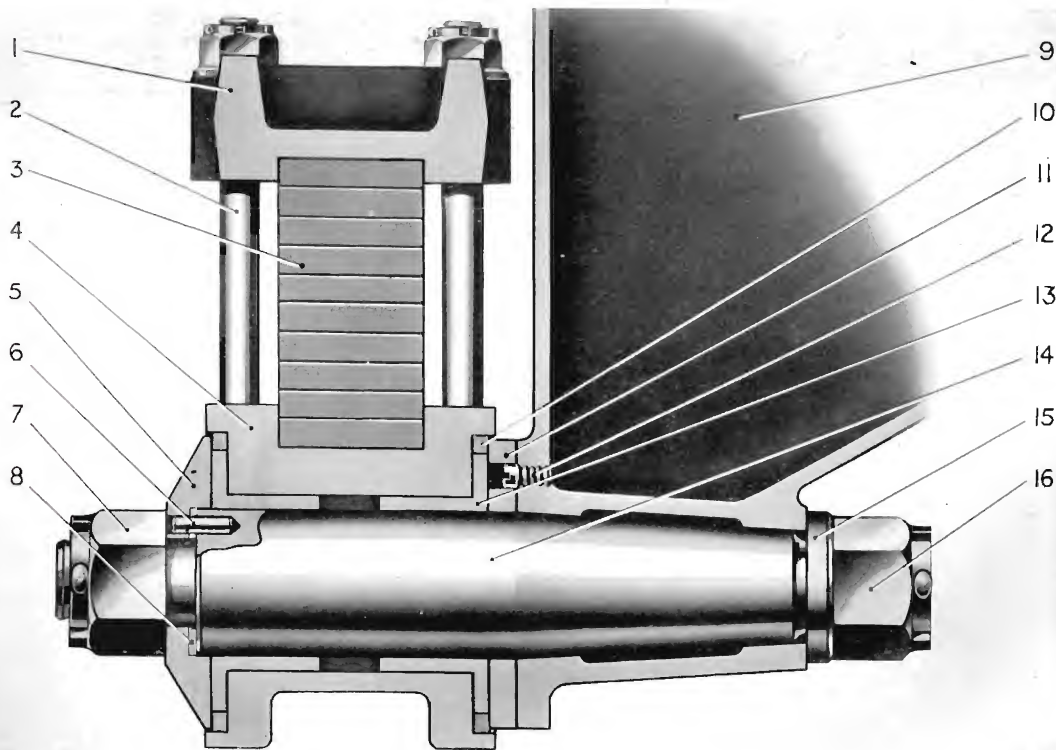

Fig. 2.
The rear springs on six-wheelers are supported on pivot pins (14), Fig. 2, taper fitted in triangular brackets secured to the frame side members and strengthened by a cross tube. The springs are secured to the spring-seat brackets (4) by alloy steel bolts. The spring-seat brackets have flanged bushes (13) pressed in from each end and are located on the pivot pin between two thrust washers (5) and (11), one dowelled to the triangular bracket, the other to the pivot pin. The assembly is secured by a large nut (7) which is split pinned, shims (8) being fitted so that the nut can be pulled dead tight without nipping the spring-seat bracket. Dirt and water are excluded by two felt washers (10). Lubrication is effected through nipples in the lubrication batteries.
To replace a broken spring, pack up under the frame high enough to take all weight off the spring; jack up under the axles and remove the wheels. Remove the bolts securing the spring to the spring-seat bracket (4), Fig. 2, take out the clamp bolts and withdraw the shackle pins. The shackle pins have $\frac{3}{8}$ in. B.S.F. tapped holes, so that bolts can be screwed in to facilitate their withdrawal. Jack up the axles high enough to allow the spring to clear the axle brackets and the spring can be removed.
The spring-seat bracket bushes should be renewed if there is excessive play on the pivot pin. When replacing the spring-seat bracket, check that the thrust washers are located on the dowels and that the felt washers are replaced. Tighten the retaining nut dead tight, fitting or removing shims (8), Fig. 2, until the spring-seat bracket can pivot freely without end play, then split pin the nut. Do not nip the spring-seat bracket.